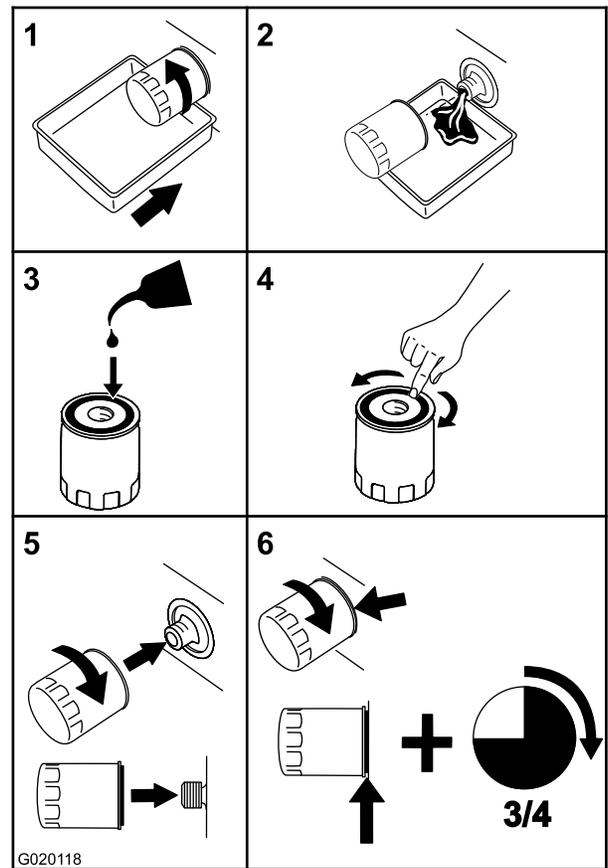

Figure 53
6. Place a container below the filter to catch the oil that drains when the filter and vent plugs are removed (Figure 53).
1. Apply a thin coat of oil on the surface of the rubber seal of each filter (Figure 53).
2. Turn the filter clockwise until rubber seal contacts the filter adapter then tighten the filter an additional 3/4 to 1 full turn (Figure 53).